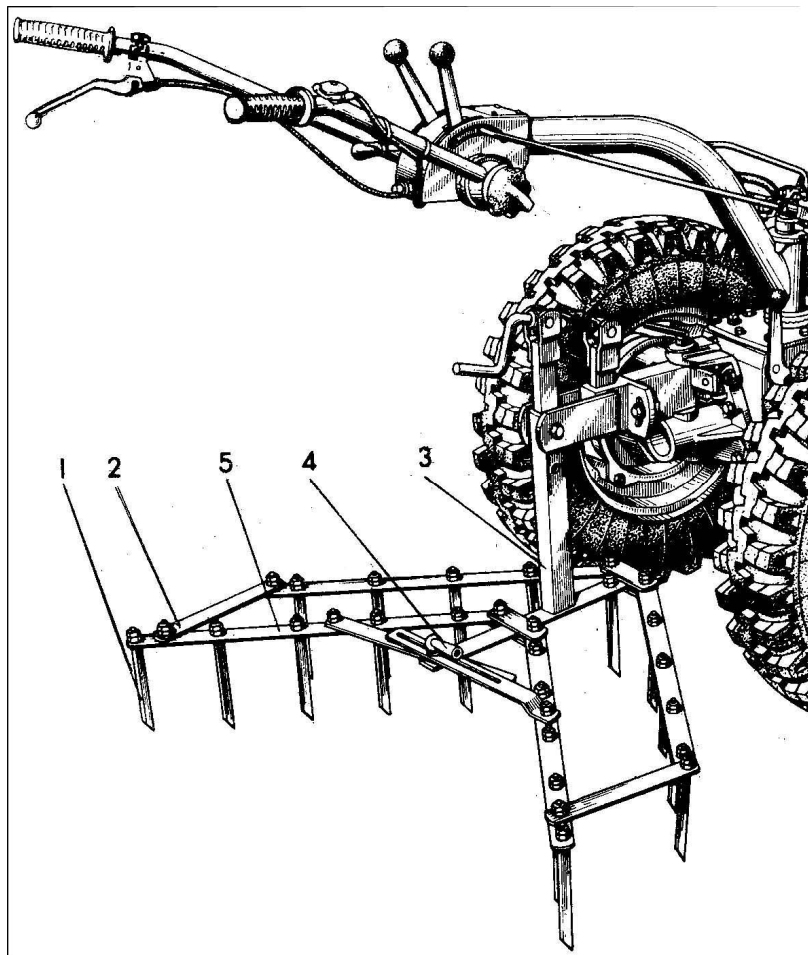
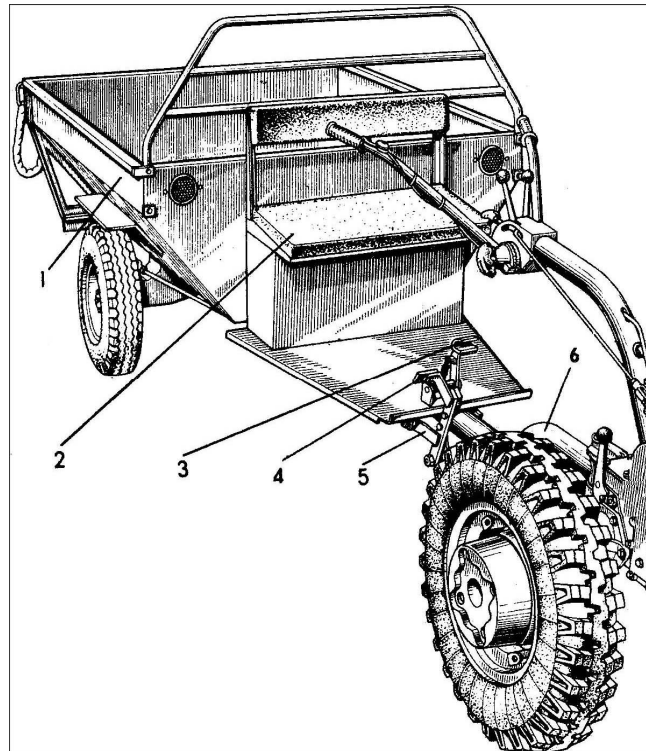

Figure 18 – Two-wheel tractor coupled with harrow
Figure 19 – Tractor coupled with trailer
Steering rod reversing diagram is shown in Figure 18.
To prepare the tractor with the plough for operation (fig. 19) perform the following operations:
Coupling the harrow with the tractor is shown in figure 18.
By means of a hitch handle 8 (fig. 19) adjust the harrow position so that its teeth were evenly deepened in a working condition. Harrow width is set with a handle 4 (fig. 18).
2) Attach a bar 6 (fig. 19) by means of a pivot 16 (fig. 3) to the tractor hitch iron, fix the pivot with the key 6. Lift up a support 5 (fig. 19) of the trailer and fix it in a horizontal position by means of a pin.